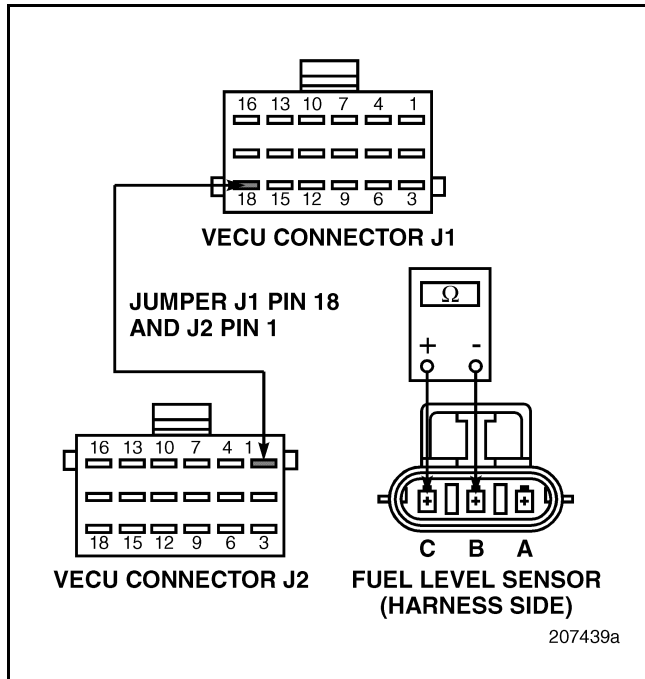

Figure 606
2. Disconnect the harness connector from the Fuel Level (FL) Sensor.
5. Check for continuity between Fuel Level (FL) Sensor harness connector pins B and C (see Figure 606).